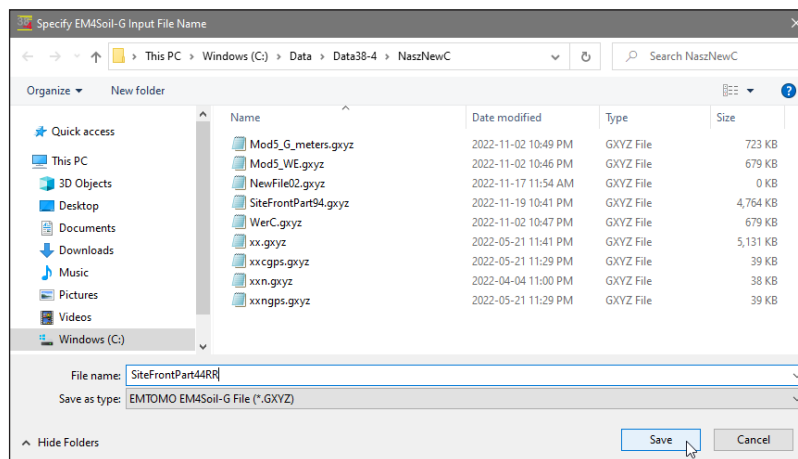

Figure 7.17 Select EM4Soil-G File Name dialog
- Click the File button to open the **Select GXYZ** File window (Figure 7.17).